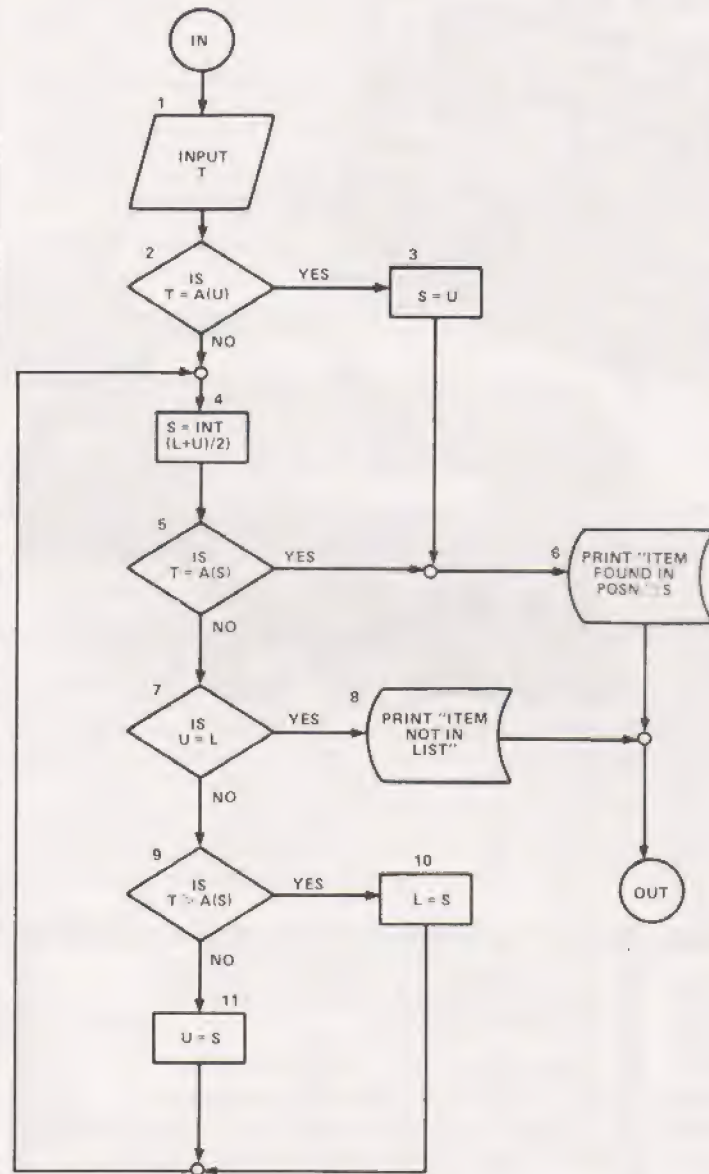

Fig.1. The Binary search flowchart.
A flow chart to perform the Binary Search algorithm might be as Fig.1. We assume that this routine is being used as part of a larger program so that U and L already have values. U is the pointer for the upper limit of the interval, yet to be searched and L is the pointer for the lower limit on this interval. So, for example, if the list to be searched contains 100 items, then U would be 100 and L would be 1. Flow
This process continues until we either find the item T somewhere in the list and print this fact or prove that the item T is not contained in the list at all. A program segment with the function of the flowchart of Fig.1 is given below.
Earlier we said that we would look at the need for flowchart box 2 in Fig.1, and we will do this now with reference to the above program. We will dry-run it with U=3 and L=1 giving us a list of 3 items. (Say A(1)=10, A(2)=12 and A(3)=52). Program line 120 above corresponds to box 2 in Fig.1 and we will omit it mentally and see what happens when we input a value of 52 for T in line 110 above. Line 130 assigns a value of 2 to S (L+U=4, 4/2=2, INT(2.5)=2, S=2). T is not equal to 12, the value of A(2) in line 140 and so we move on to line 150. U is not equal to L, and so on to 160. T is greater than A(2) which shows that if T is contained in the list at all it must be in the upper half.
130 to calculate the mid-position of U and L will only round down to the nearest integer — it cannot round up — and consequently we can never look at the last item in the list to see if it contains T. Obviously, then, when the last list position does contain T the algorithm would not terminate without the inclusion of some test (Fig.1, box 2 for example) to see if T were contained in the last list position.